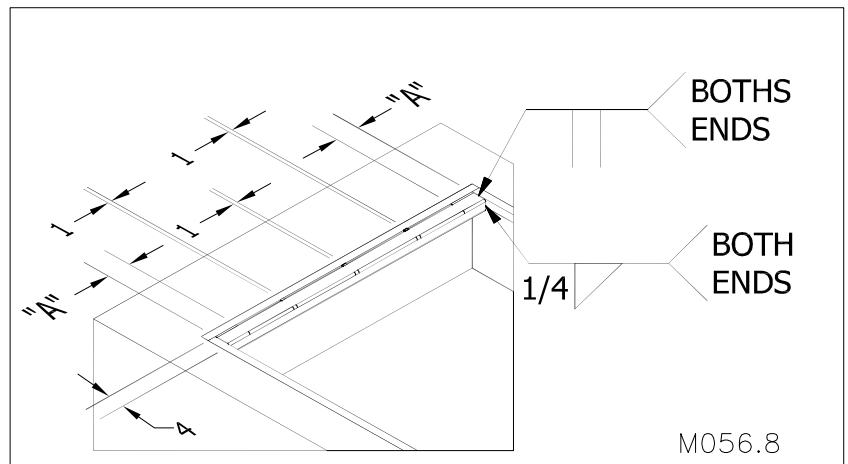

Figure 21: Welding the 4 X 3 Rectangular Tubing to the Curb Angles
3. ___ Weld the ends of the rectangular tubing to the side curb angle (see "Figure 21: Welding the 4 X 3 Rectangular Tubing to the Curb Angles" on page 16). Add vertical welds at the ends of the tube between tube surface and side curb angle surface.